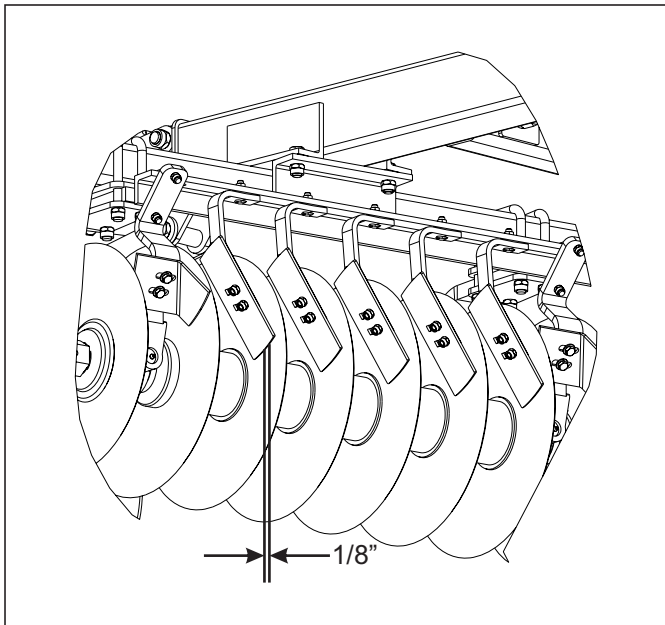

Figure 4-10: Scraper Adjustment
1. Rigid scrapers should be set initially as close to the disc blade as possible without rubbing (approximately 1/8") (See Figure 4-10.) A slotted hole at the top of each scraper is provided for individual adjustment. Adjustments may be made for entire gangs, by loosening the u-bolts around the angle-iron scraper bars and sliding the whole bar. Scraper arms are made of spring steel. In wet conditions, the scraper may be set against the disc blade and will function as a spring-loaded scraper.